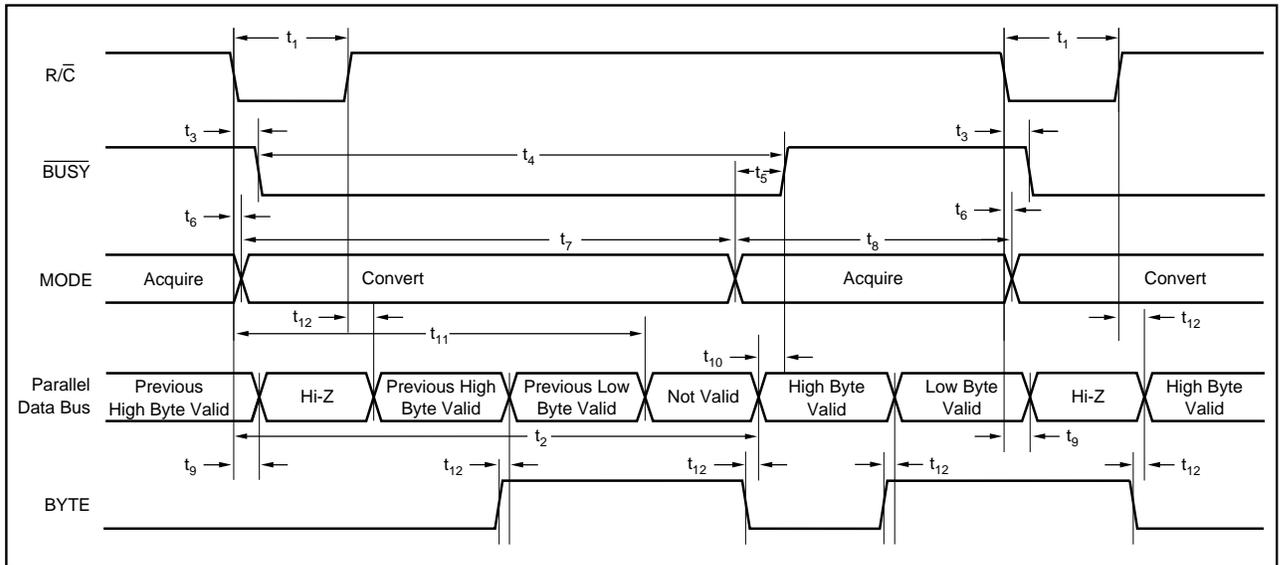

FIGURE 2. Conversion Timing with Parallel Output ( $\overline{\text{CS}}$  and  $\overline{\text{DATACLK}}$  tied LOW,  $\overline{\text{EXT/INT}}$  tied HIGH).
The ADS7807 will begin tracking the input signal at the end of the conversion. Allowing 25µs between convert commands assures accurate acquisition of a new signal. Refer to Tables III and IV for a summary of  $\overline{CS}$ ,  $R/\overline{C}$ , and  $\overline{BUSY}$  states and Figures 2 through 6 for timing diagrams.
NOTE: (1) See Figures 2 and 3 for constraints on data valid from conversion "n-1".
After conversion 'n' is completed and the output registers have been updated,  $\overline{\text{BUSY}}$  (pin 24) will go HIGH. Valid data from conversion 'n' will be available on D7-D0 (pins 9-13 and 15-17).  $\overline{\text{BUSY}}$  going high can be used to latch the data. Refer to Table VI and Figures 2 and 3 for timing constraints.
After conversion 'n' has been initiated, valid data from conversion 'n-1' can be read and will be valid up to 12 $\mu\text{s}$  after the start of conversion 'n'. Do not attempt to read data beyond 12 $\mu\text{s}$  after the start of conversion 'n' until  $\overline{\text{BUSY}}$  (pin 24) goes HIGH; this may result in reading invalid data. Refer to Table VI and Figures 2 and 3 for timing constraints.